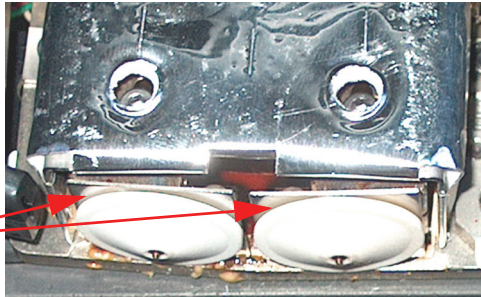

Figure 26: Tip Shroud Removal
2. Position the blade of the putty knife supplied with Start-Up Kit between the Tip Shroud and Tip Shield (Figure 26)